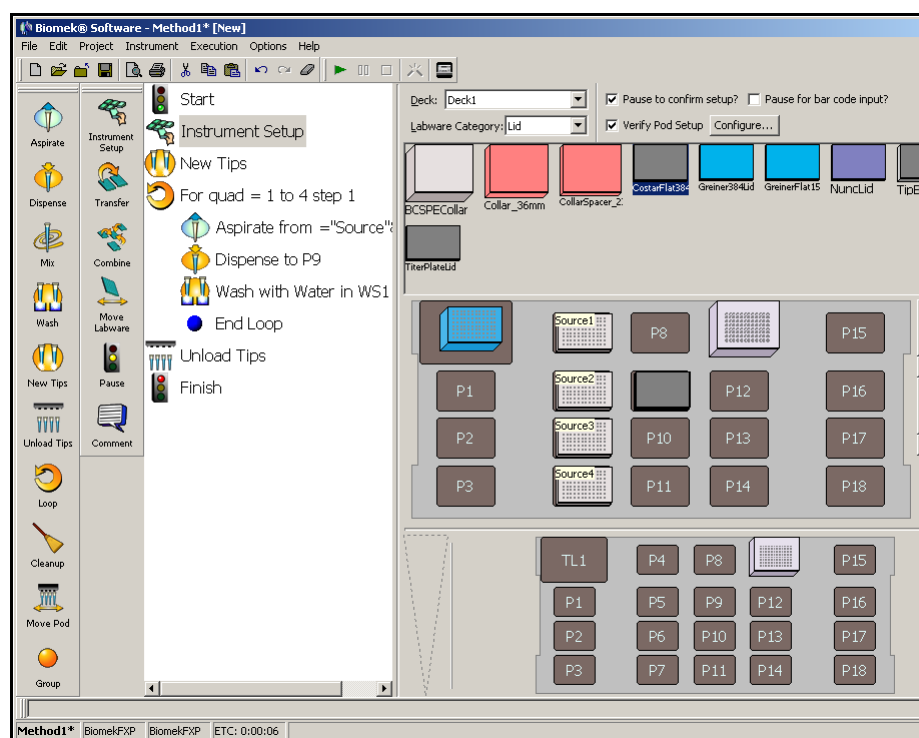

Figure 3-16. Modifying Instrument Setup step to add a lid
3. Drag a **CostarFlat384SquareLid** on top of the **CostarFlat384Square** plate located on position P9. Your **Instrument Setup** should now look like Figure 3-16.